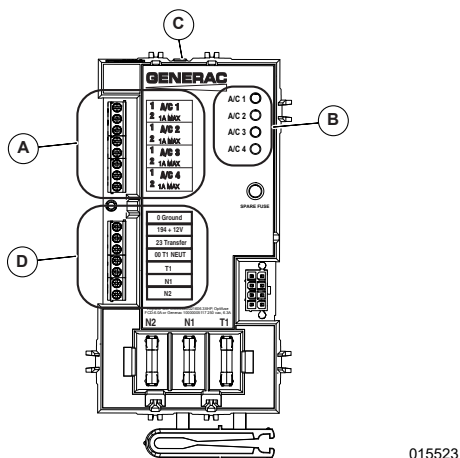

Figure 2-2. Smart A/C Module (SACM)
See Figure 2-2. Priorities A/C 1-4 (A) have connections for an air conditioner. To control an air conditioner, no additional equipment is required. Internal normally closed relays interrupt the 24 VAC thermostat control signal to disable the air conditioner load.
See Figure 2-2. The SACM has a test button (C) used to simulate an overload condition. This button operates even when the transfer signal is inactive. The Generator Control Wiring is connected to terminals (D).